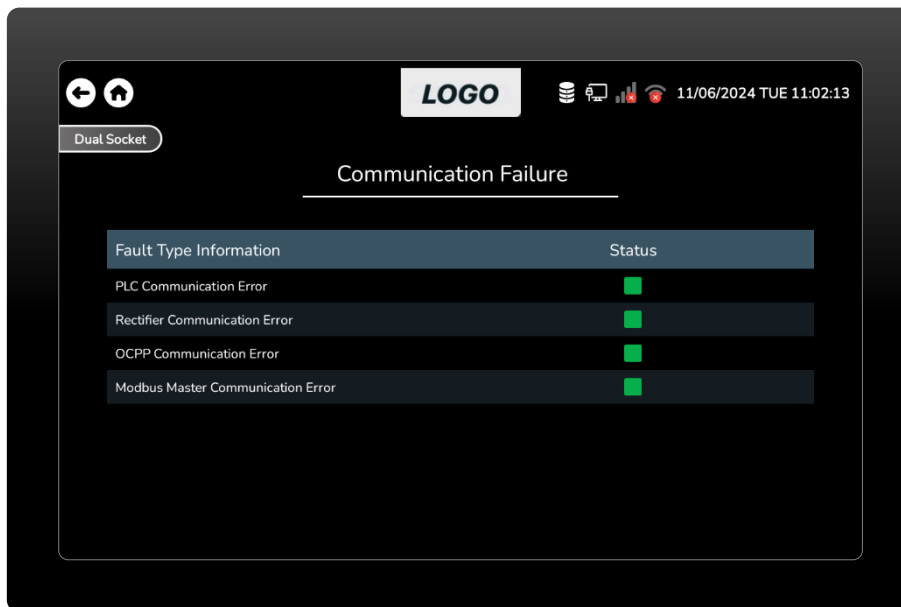

Figure 106 Communication Failure Screen.
- This is the communication failure screen, where the user can view information about communication errors such as PLC, rectifier, OCPP, and Modbus master. (Figure 106)